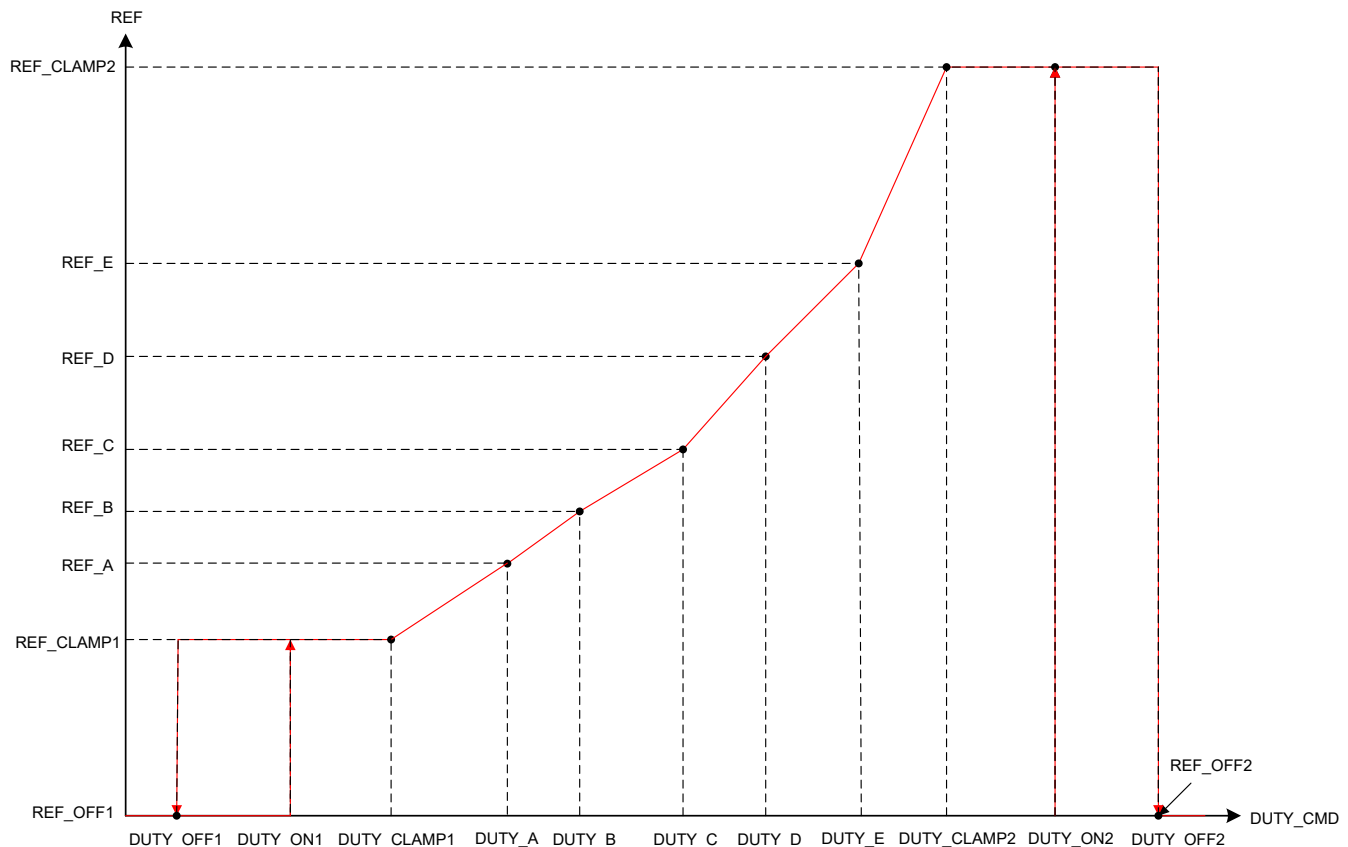

**Figure 6-20. Linear Control Profiles**
- DUTY\_OFF1 and DUTY\_ON1 configures a hysteresis around reference control input REF\_CLAMP1 and REF\_OFF1 as shown in Figure 6-20.
- DUTY\_A configures the duty command for reference REF\_A. The reference changes from REF\_CLAMP1 to REF\_A linearly between DUTY\_CLAMP1 and DUTY\_A. DUTY\_A to DUTY\_E has to be in the same order as shown in Figure 6-20.
- DUTY\_OFF2 and DUTY\_ON2 configures a hysteresis around reference control input REF\_CLAMP2 and REF\_OFF2 as shown in Figure 6-20.